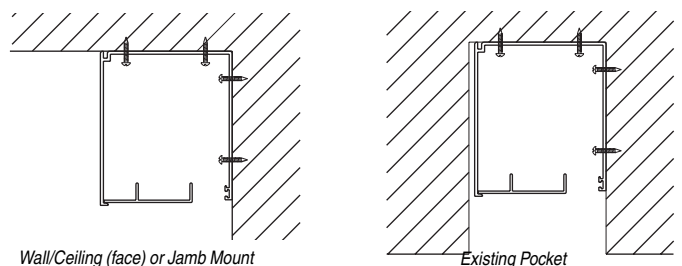

Figure 5
- ④ Verify dimensions of opening and refer to order for overall dimensions of the unit. Determine location of head box directly above and centered on the opening. It is critical that the head box is installed absolutely level (use shims and caulking if needed). Install head box assembly using appropriate fasteners through pre-drilled holes in end caps, then drill through cover for wall ceiling mounting (see Fig. 5).